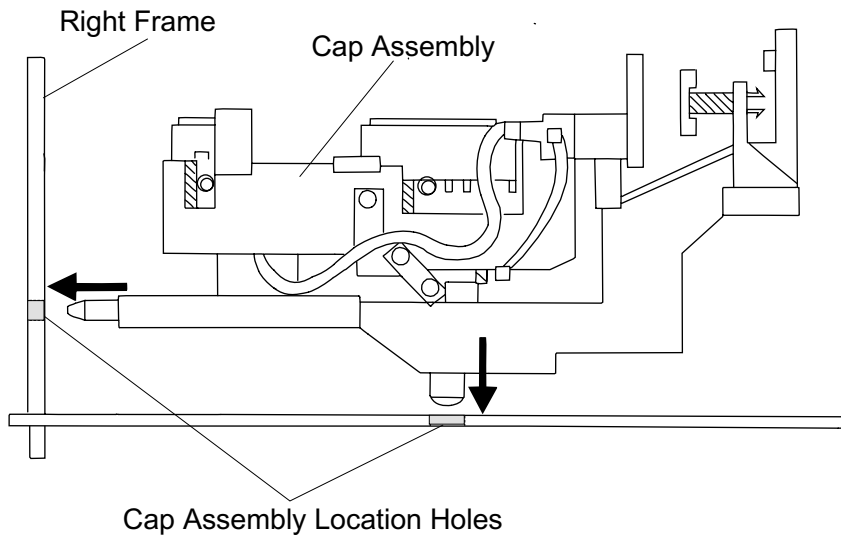

Figure 3-40. Cap Assembly Removal
- ❑ Align the pin at the left edge with the hole in the right frame when positioning the cap assembly, as show in Figure 3-40.